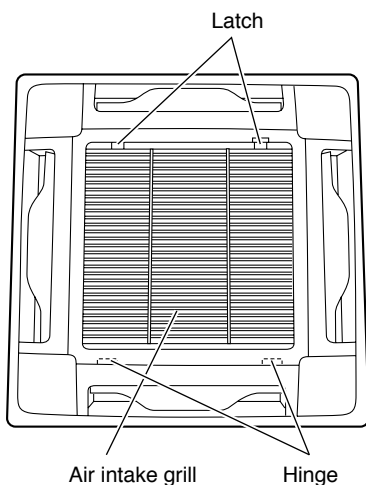
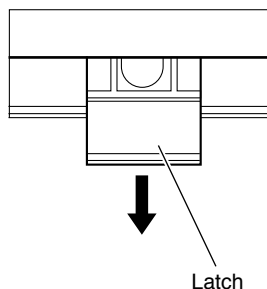

Fig.1
Fig.2
- (1) Slide the 2 latches each to the corresponding arrow direction. (Fig. 1 and Fig. 2)